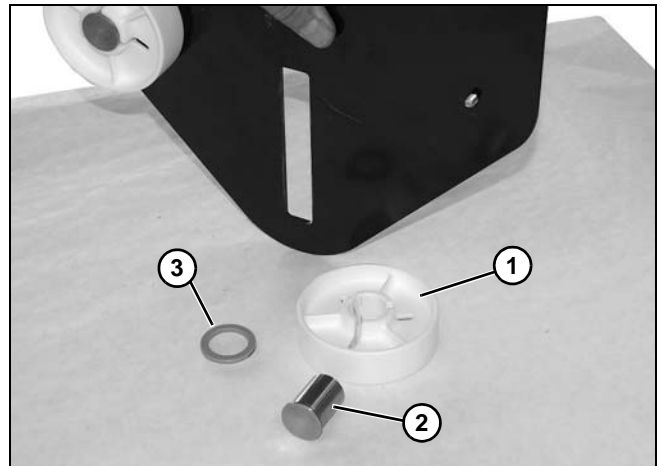

Figure 109
9. On opposite side of socket head screw just removed, remove idler puck (**Figure 109, item 1**), idler stub (**Figure 109, item 1**), and spacer (**Figure 109, item 2**).